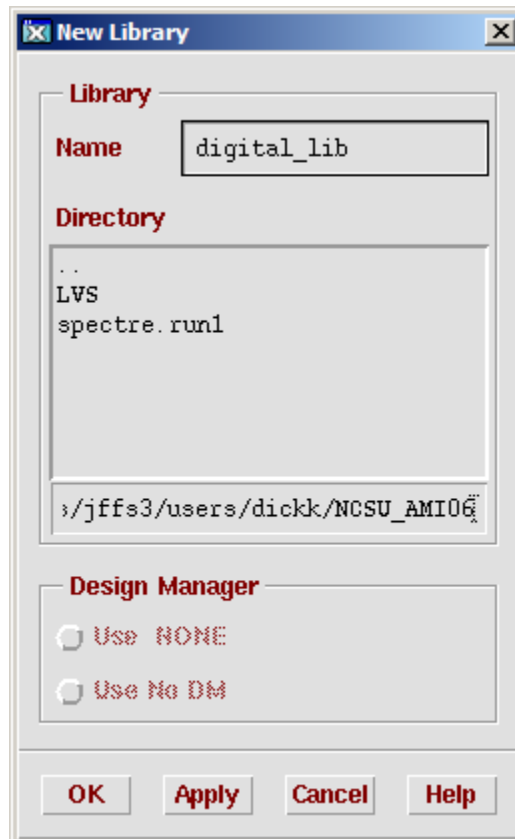

Figure 1: Create New Library Window
- 1) Creating a new library is the first part in building a new schematic. You can do this in one of two ways, first you can create a new library from the Library Manager, or the CIW. In either case select **File->New->Library**. This will bring up the create library window, Figure 1. Enter the name of the new library, for example **digital_lib**, and select **Attach Existing Library**. When there is no path entered, it will place the library in the directory from which you started Cadence. If you started Cadence correctly, this will be your **Working Directory**.